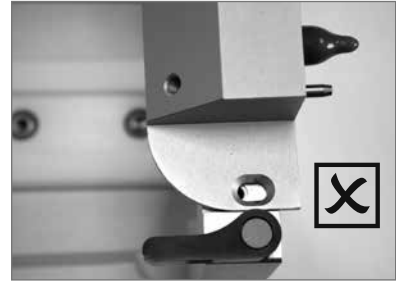

Figure 5A: Incorrect alignment of the sheath gas enabled electronics housing assembly and the interface flange
3. Align the sheath gas enabled electronics housing assembly with the interface flange so the front edge of the electronics housing is flush with the interface flange (Figures 5A-B)